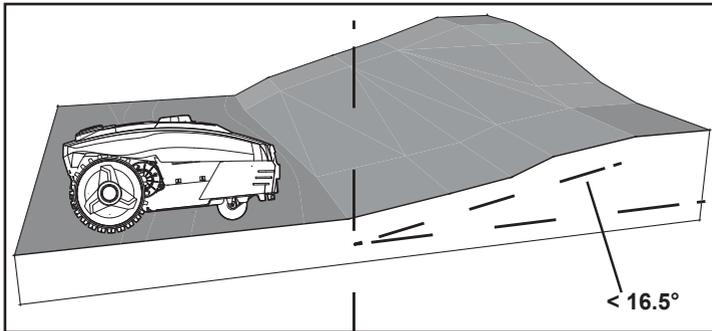

Fig. 7
- The machine can navigate slopes up to a maximum of 30% incline or decline. Slope should not be steeper than 30% / 16.5° (Fig. 7).